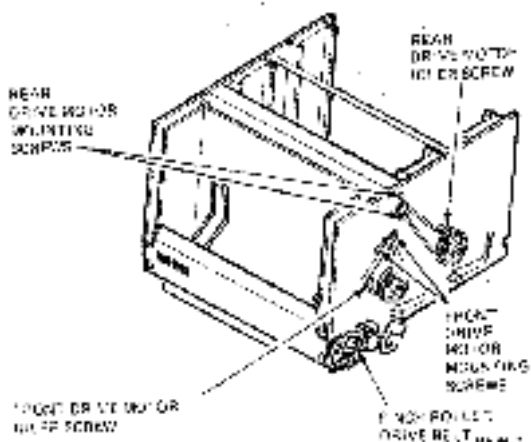

Figure 4-15 Drive Motor Removal
3. Remove the rear tray drive motor belt by loosening the idler screw and slipping the belt off the gears (Figure 4-15).
4. Remove the two rear tray drive motor mounting screws and flat washers. Lift motor from chassis (Figure 4-15).
3. Remove the front tray drive motor belt by loosening the idler screw and slipping the belt off the gears (Figure 4-15).
4. Remove the two front tray drive motor mounting screws and flat washers. Lift motor from chassis (Figure 4-15).
2. Loosen the drive motor idler screw for the belt you are adjusting (Figure 4-15).